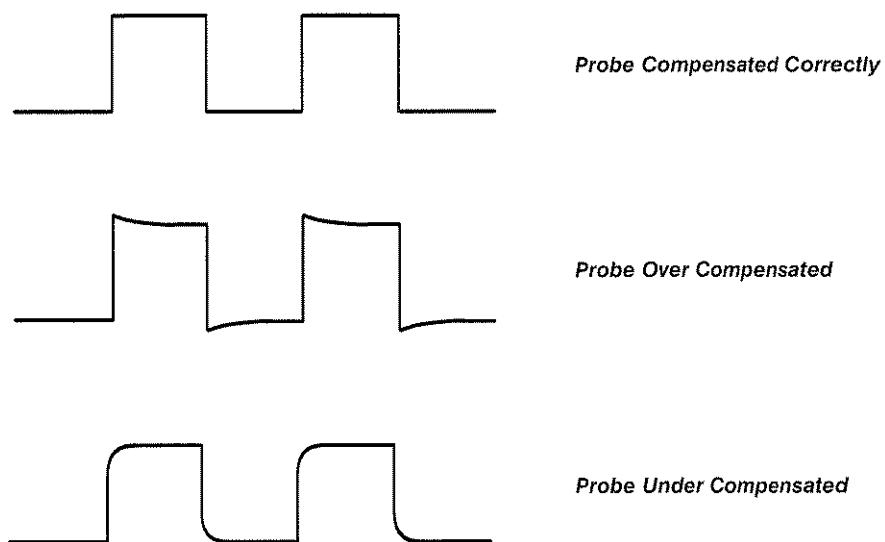

Figure 2-6: How Probe Compensation Affects Signals
10. Check that the displayed waveform is a square wave with flat tops and bottoms. See Figure 2-6 for illustrations indicating proper and improper probe compensation.